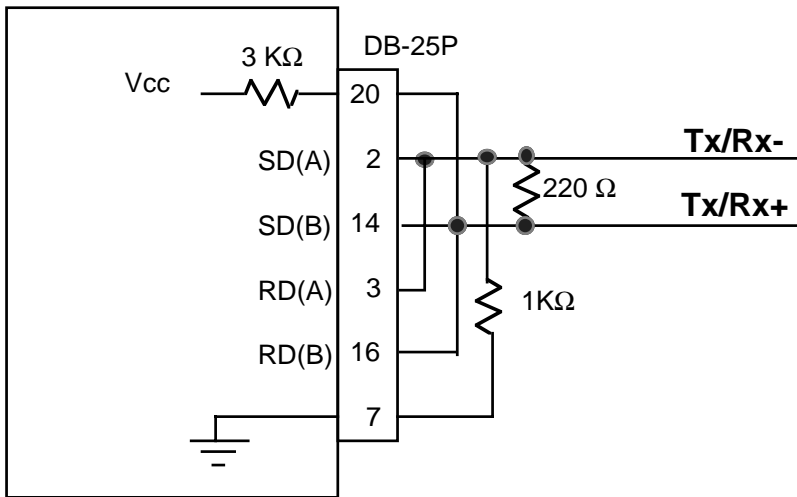

Figure 2-7 4899/4809 Pullup/Pulldown Resistor Connections
Figure 2-7 shows an alternate method of making the RS-485 connection to a 4899 or 4809. Figure 7 uses the 4899/4809 ground and internal pullup resistor available at pin 20. Jumper the internal pullup resistor to the SD(B) and RD(B) lines. Use a 1 Kohm resistor from SD(A) and RD(A) to ground as the pulldown resistor. A 220 ohm load resistor completes the circuit.